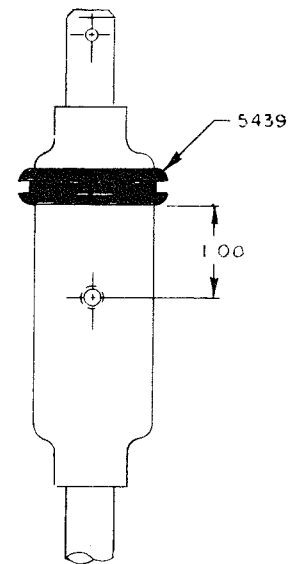

Figure 2
on the crank rod assembly about 1" below the cable clip mounting hole (Fig. 2). Insert the lower end of the crank rod (22) through crank support bracket, compress the spring (24) by pushing in on crank rod handle, reinstall the washer (7) and the cotter pin (23).